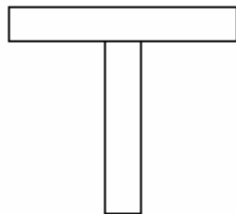
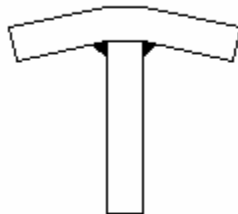
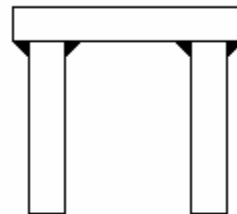

FIGURE 1
FIGURE 2
FIGURE 3
- Figure 1 -
The disc must never be machined with a male spigot for high temperature applications since such spigot (see Fig. 1 detail "B") will prevent the disc from expanding due to heat.
When fabricating mounting foundations for either steering gear or disc brakes, it is extremely important that these items be installed on a flat and even surface. Failing to observe these instructions would cause a failure in the castings. When making a 'T' section foundation, the fabricator will install a flat piece of steel, as shown in Figure 1. However, when the items are welded together it will cause the mounting plate to be deformed, that is because when the welding cools, it will pull the mounting plate downward, making the top surface uneven and not acceptable for the installation of any Kobelt equipment, as in Figure 2. Even by placing mounting shims on the outside corners will not eliminate the problem, since the shims would have to be tapered to fit underneath, precisely, between the mounting foundation and the item to be installed. It is, therefore, recommended to make foundations as per Figure 3 and even in this case, welding can deform and twist the foundation plate if not done carefully. Please be careful to make this plate straight and square. Any fabrication selected must be strong enough to withstand any and all forces imposed by our steering gear or disc brake.